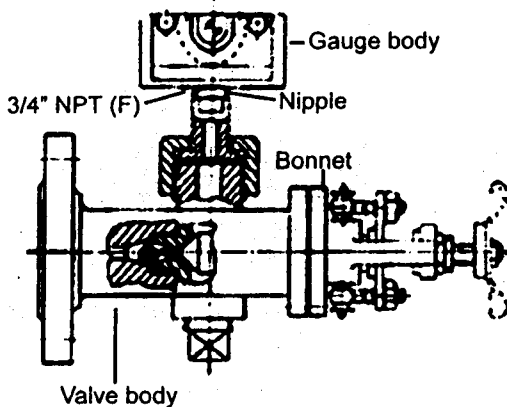
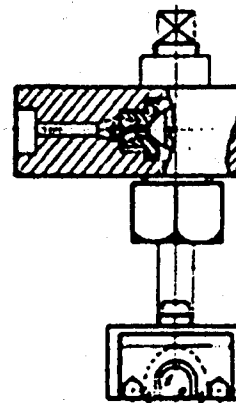

Fig.1. Offset Type Valve (Bottom)
Fig.2 Vessel Connection
Normally 3/4" NPT (F) connections are provided at Top and Bottom (Gauge Body). Offset type valves (Fig. 1) or straight type connections without valves (Fig. 6) can be provided at top and/or bottom. The vessel connections can be Flanged as shown in Fig 1 or 6. Alternatively, Vessel connection can also be screwed as per Fig. 5, or Socket Weld type as per Fig. 2. Again instead of rigid connections, connections can be taken through Spherical Unions (Screwed, Socket Weld or Flanged type) as shown in Fig 3, 4 & 7 respectively.